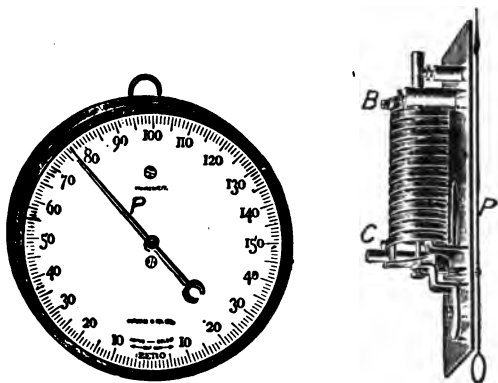

FIG. 6.—METALLIC DIAL THERMOMETER
12. Expansion Effect Utilized in Determining Temperature Changes. Inasmuch as such substances as mercury, alcohol, and metals expand when heated and contract when cooled, it is possible to take advantage of this by properly arranging the substance to indicate the changes. Figure 6 represents a metallic thermometer in which the compound bar of brass and iron has one end *B* securely fastened to the support,